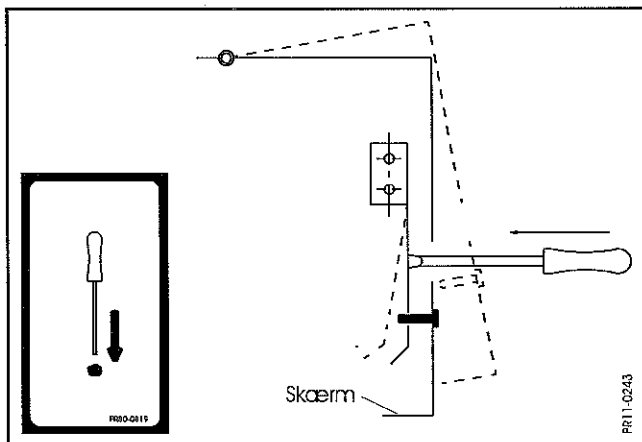

Fig.43
**Fig. 43** All guards hinged on the machine are equipped with a locking device. The lock ensures that it is not possible to open the guard without the use of tools. There are two different types of lock. Fig. 43 og 44 show the two locking principles and the respective labels that must mark and illustrate the locking devices on the machine.